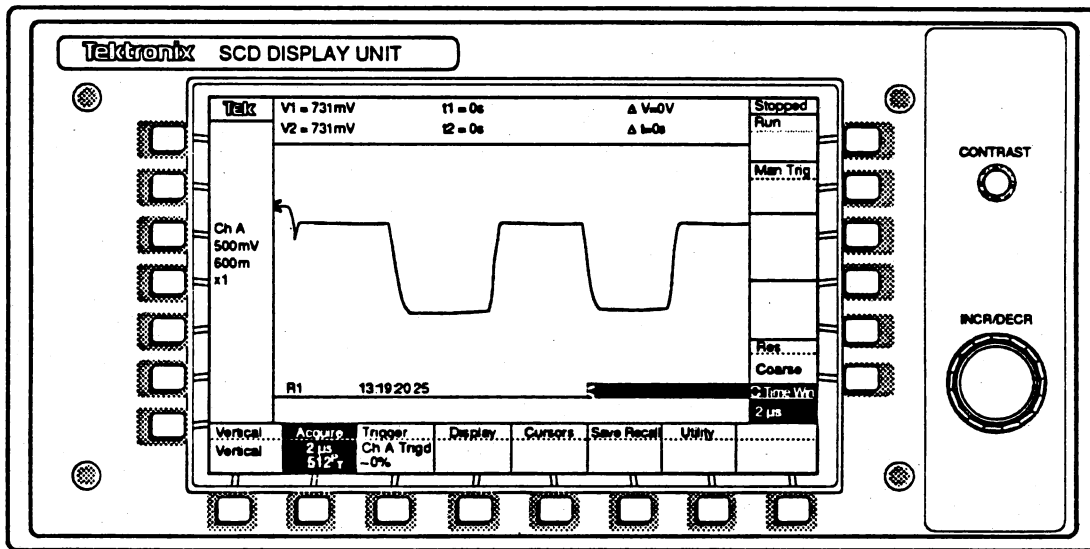
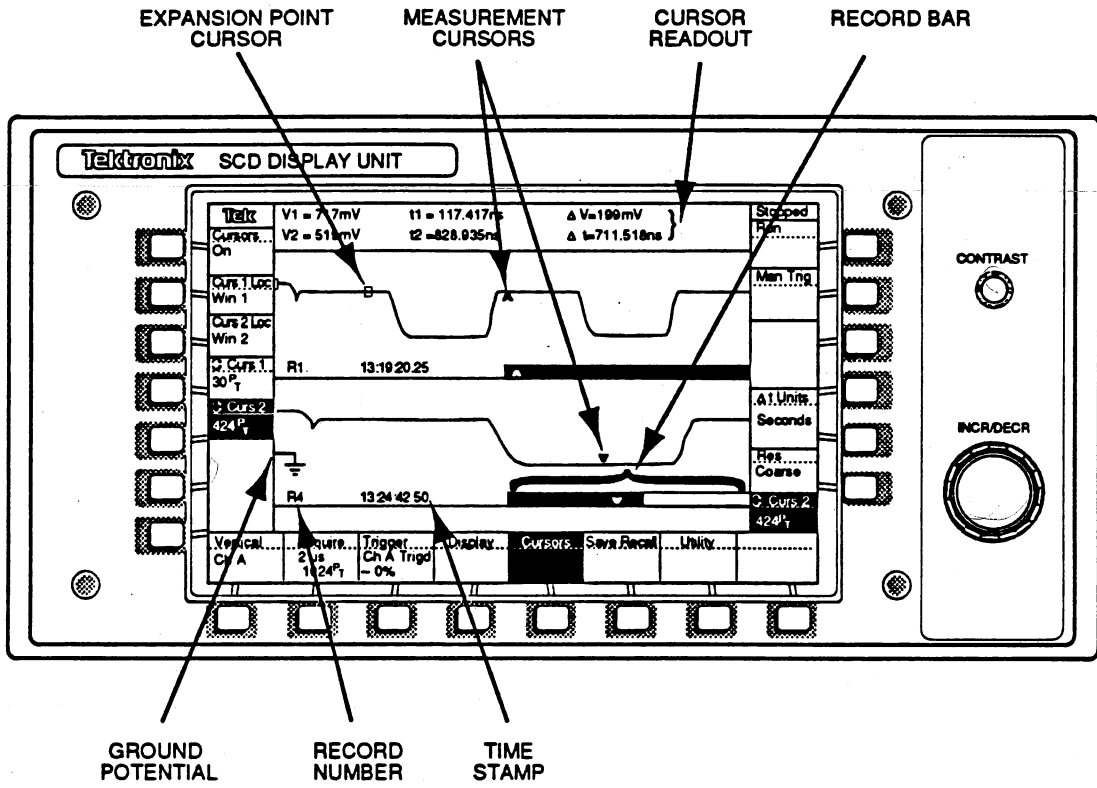

Figure 2-7: Single Waveform Display
Figure 2-8: Waveform Zone Indicators
**Waveform Zone** – This zone displays waveform data in 1, 2, or 4 windows. Each window can display one waveform and several indicators. A typical single waveform display is shown in Figure 2-7. Waveform zone indicators are shown in Figure 2-8.